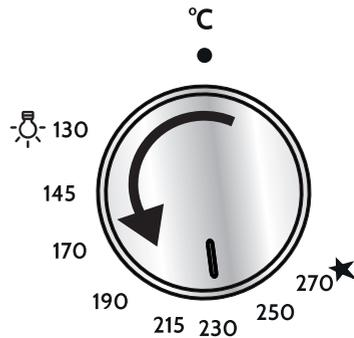

Fig. 2.2
The numbers printed on the control panel or on the knob (fig. 2.2) indicate the increasing oven temperature value (see table below). To regulate the temperature, set the knob to the chosen number. The "FAN ASSISTED GAS OVEN" column refers to the oven burner used in combination with the fan motor, while the "GAS OVEN" column refers to the oven burner used in the normal convection mode (without fan motor). The ★ symbol close to the maximum position indicates that the electric ignition is incorporated into the knob (activated by the knob itself).
- 2 – Lightly press and turn the thermostat knob anti-clockwise to the maximum position  (fig. 2.2). Press the knob firmly until the burner lights.